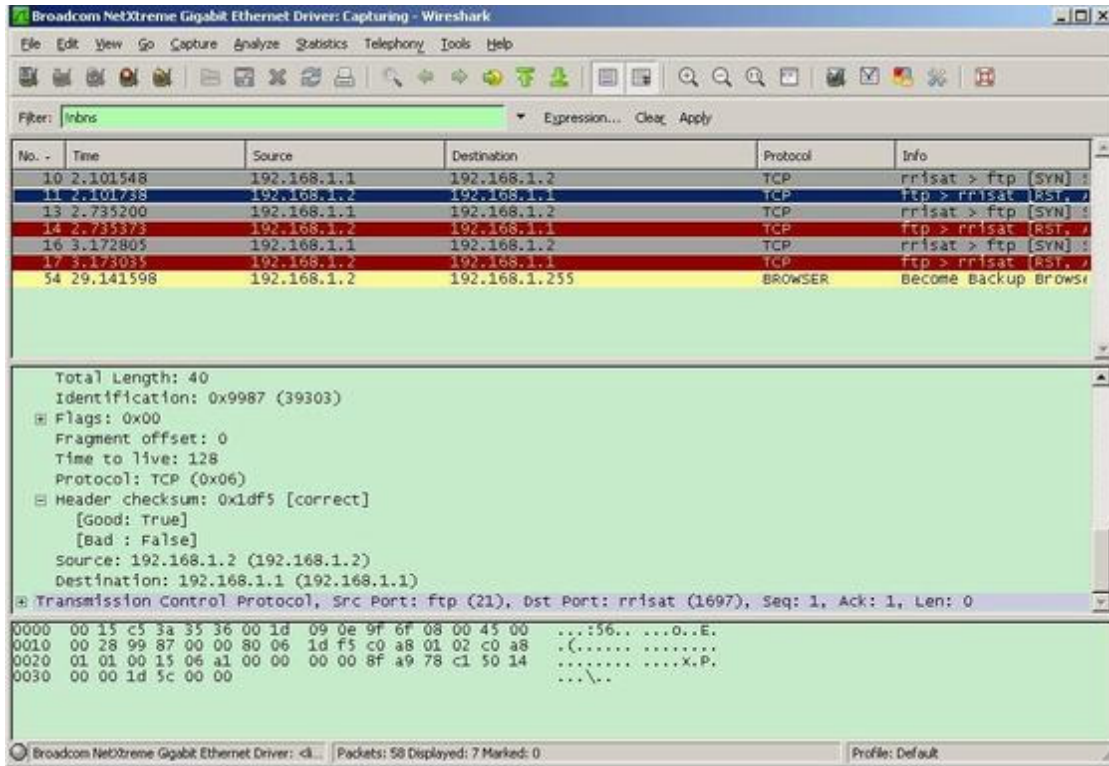

Figure 18-5. Port Snooping
5. Destination_port is the bit mentioned above. It contains 16-bit port number to compare within TCP or UDP header of a frame. Figure 18-5 shows the port snooping.
Figure 18-5 shows the IP snooping.